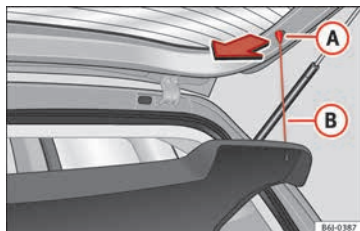

Fig. 159 Rear shelf.
- Unhook the loops » Fig. 159 (B) from housings (A).